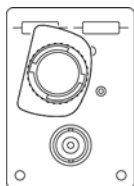

Figure 13 Signal to + Input
- 2 Carefully connect the input of the probe/attenuator to the test board in the position shown in Figure 13.